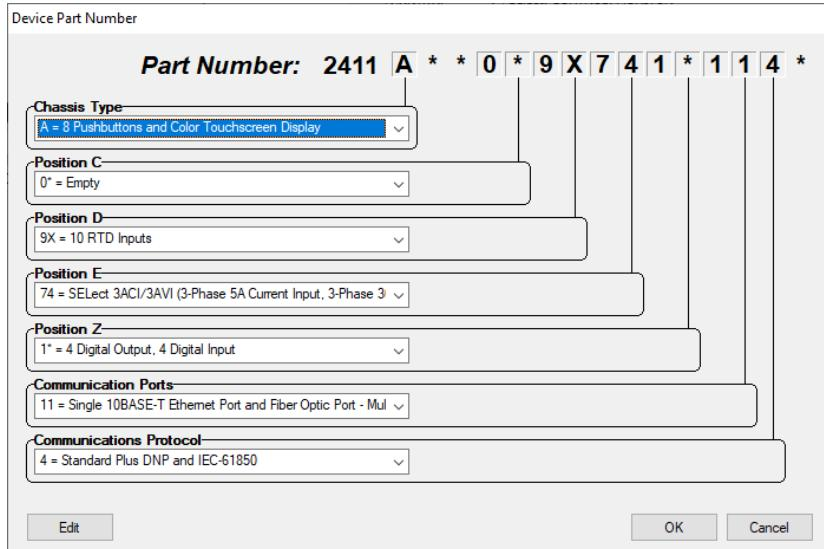

Figure 8.73 Device Part Number Touchscreen Configuration Option
- Step 1. Create an SEL-2411 settings file configured for the touch screen display, the 10RTD card, and the 4 Digital Input /4 Digital Output card for this example (Part Number = 2411A1A009X74151140) (see *Figure 8.73*).